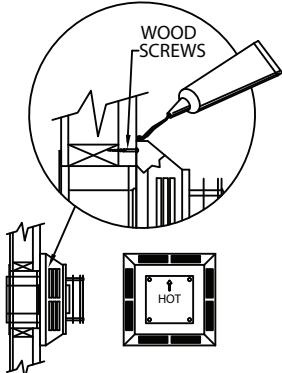

Figure 7
Step 4. Position the Horizontal Termination Cap in the center of the square framed hole, and attach to the exterior wall with the four wood screws provided. Before attaching the vent termination cap to the exterior wall, run a bead of non-hardening silicone sealant around its outside edges to make a seal between the cap and the wall. The arrow on the vent cap should be pointing up. Ensure that proper clearances to combustible materials are maintained (**Fig. 7**).